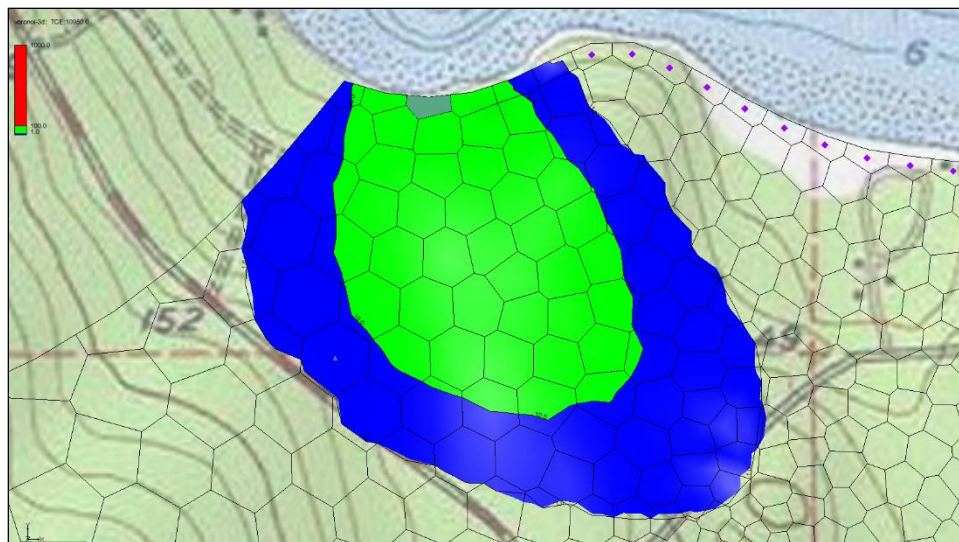

Figure 7 Select cell 840 in layer 1
16. Using the **Select Cells**  tool, select cell 840 in layer 1 as in Figure 7.